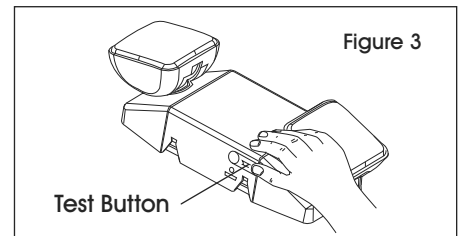

Figure 3
5. Attach housing to base plate, turn on AC power and press test button to check light. (See Figure 3)
4. Align snaps and push housing directly onto base plate. Apply continuous AC power and press "TEST" button to check light. (See Figure 3)